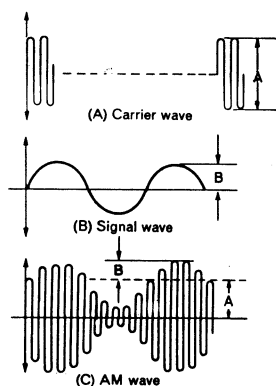
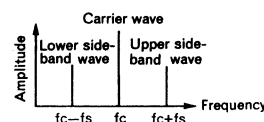

Fig. 1
Fig. 2
When the carrier wave (A) as shown in Fig. 1 is amplitude-modulated by the signal wave (B), the AM wave (C), the amplitude of the carrier of which changes according to the amplitude of the signal wave is obtained. When the carrier wave f_c (kHz) is amplitude-modulated by the single signal f_s (kHz), the AM wave contains the frequency component -- $f_c - f_s$ (kHz), f_c (kHz), $f_c + f_s$ (kHz) -- as shown in Fig. 2. The bandwidth [$(f_c + f_s) - (f_c - f_s) = 2f_s$] of this frequency is called the occupied frequency bandwidth, and the component $(f_c - f_s)$ kHz is called the lower side-band, and the component $(f_c + f_s)$ kHz, the upper side-band. Replacing f_s by a voice signal, the waveform of the voice signal is very complicated containing various frequency components from 300 Hz to 3,000 Hz, so it results in an AM wave, with very many upper side-band and lower side-band waves between ± 3 kHz of the carrier wave. The occupied frequency bandwidth is specified as 6kHz in